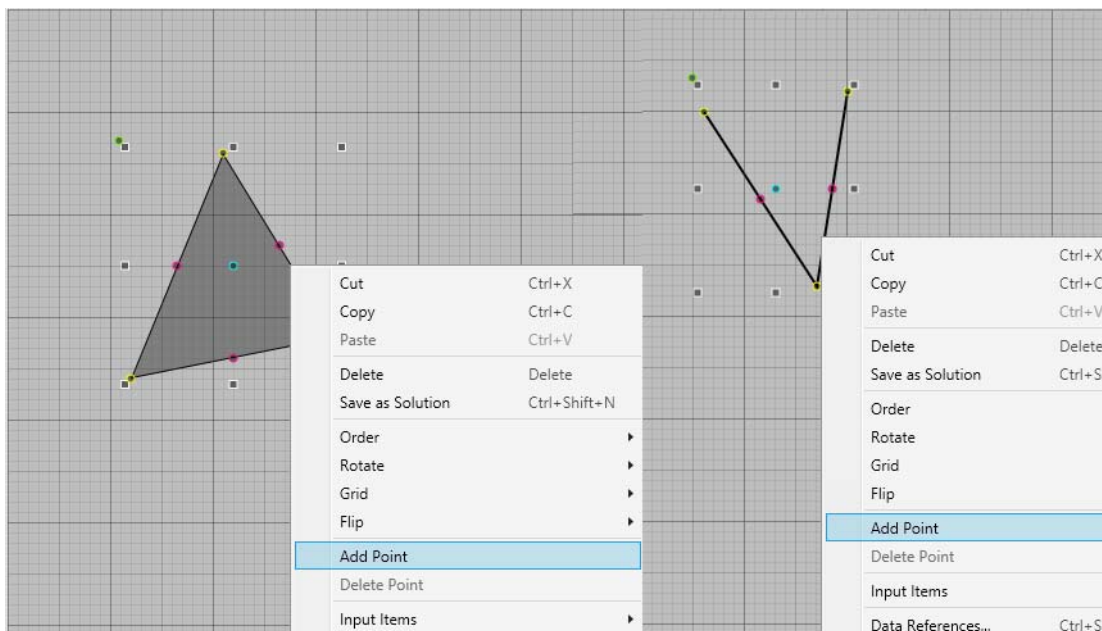

Figure 12. Context menu of a polygon/polyline
2. In the polygon, polyline, flexible pipe, or high performance pipe, right-click anywhere on line to add a new point to this existing line (see Figure 12).
2. To delete a point in polygon, polyline, flexible pipe, or high performance pipe, right-click the point (see Figure 12).